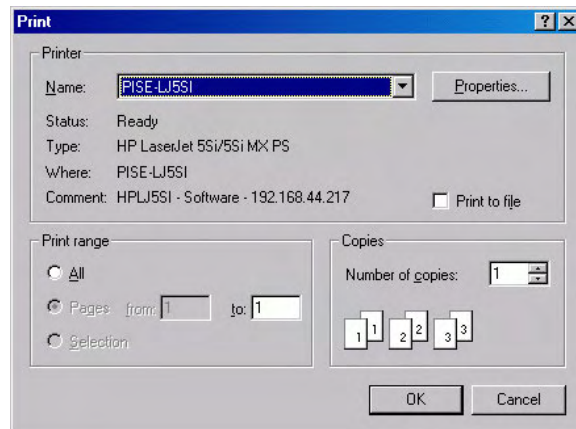

Figure 118. Print dialog box
1. From the File menu, open the Print dialog box (Figure 118).